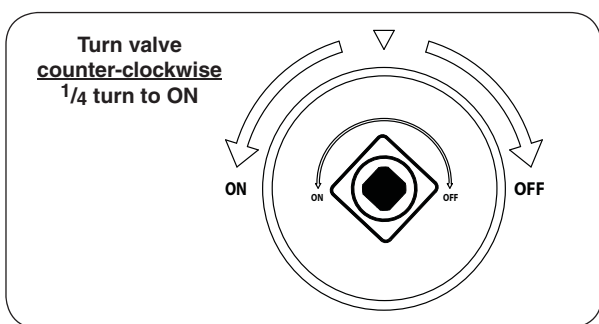

Fig. 29-2 ON/OFF key valve detail
2. Turn the ON/OFF key valve counter-clockwise a $\frac{1}{4}$ turn to the **ON** position (Fig. 29-2).